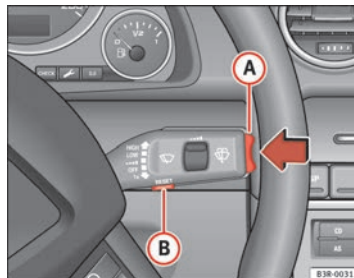

Fig. 63 Windscreen wiper lever: Reset button and rocker switch
Functions of the **[Reset]** (B) $\Rightarrow$ fig. 63 and the **rocker switch** (A):